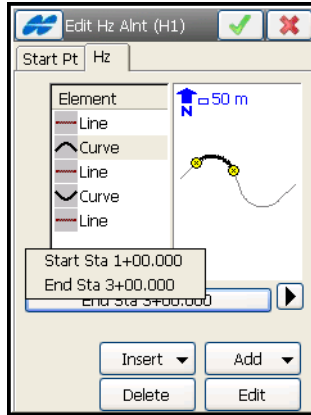
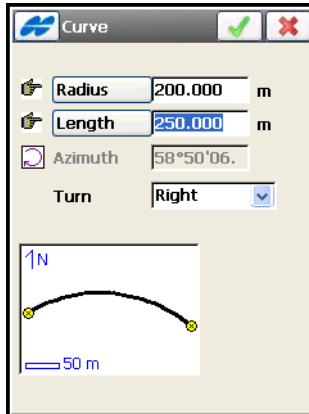

Figure 7-8. Information on Element Start and End Stations
Figure 7-10. Add Curve
- To add a horizontal alignment element (Figure 7-8), tap the **Add** button and select an element from the floating menu: either *line*, *curve*, *spiral*, or *intersection point*.
- To view the start and end stations (or chainages) information for the selected alignment element, highlight it and tap the *End Station* information under the element list (see Figure 7-8 on page 7-7).
3. Tap the ok ☒ button to save the element to the road and to return to the *Edit HZ Alnt* screen (Figure 7-8 on page 7-7).
2. On the *Curve* screen (Figure 7-10 on page 7-9), enter the following parameters, and tap the ok ☒ button to save the element to the road and to return to the *Edit H_z Alnt* screen (Figure 7-8 on page 7-7).
- For the direction of turn (Figure 7-10), select either *Right* (for clockwise direction) or *Left* (for counter-clockwise direction.)
1. To add a spiral, select the *Spiral* option from the **Insert** or **Add** floating menu on the *Horizontal* tab of the **Edit Hoz Alnt** screen (Figure 7-8 on page 7-7). The *Spiral* screen displays.
3. Tap the ok  button to save the element to the road and to return to the *Edit H_z Alnt* screen (Figure 7-8 on page 7-7).